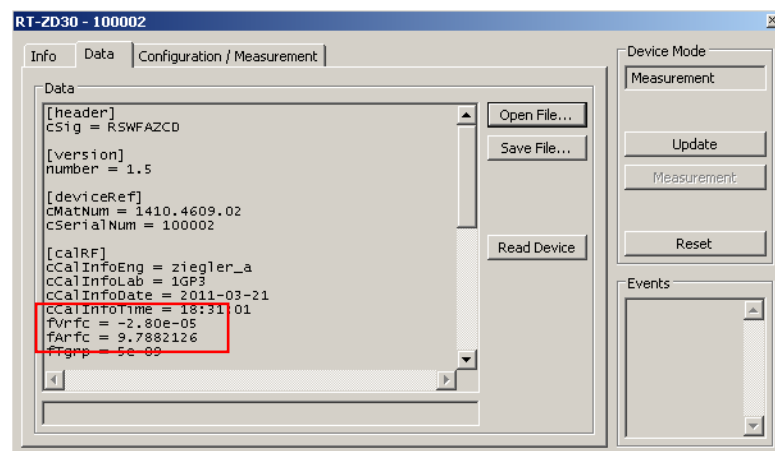

Figure 1-4: Data tab in R&S RT-Z device manager
- ▶ Open the Data tab (see Figure 1-4).